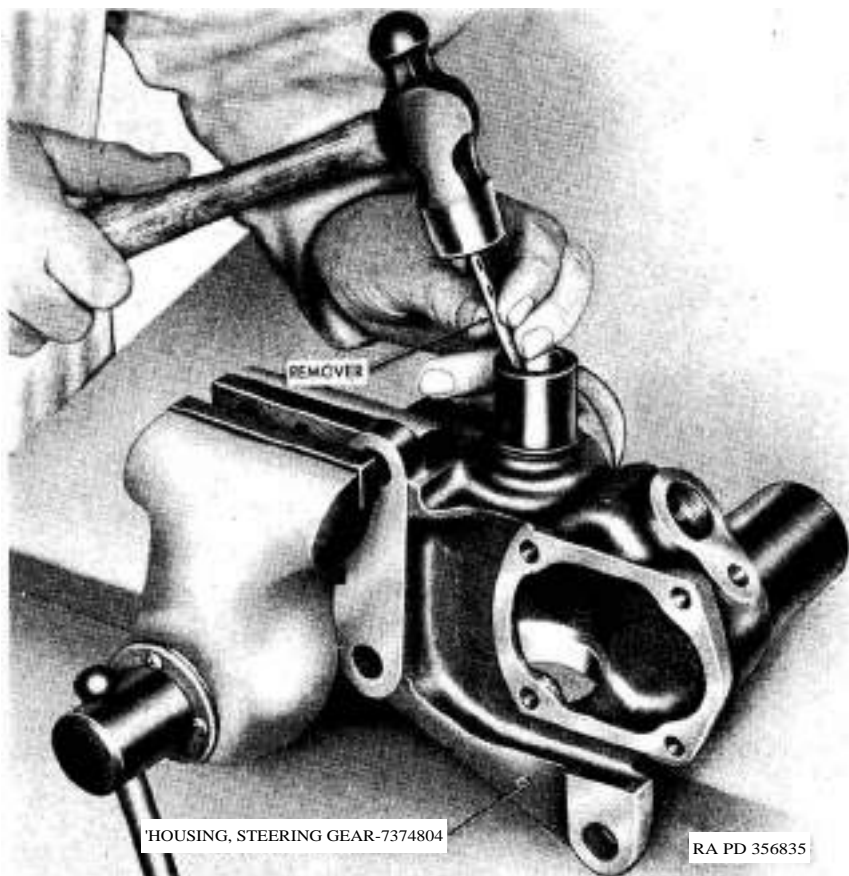

Figure 161. Removing worm upper bearing cup from steering gear housing with an improvised remover.
- (7) Remove worm lower bearing cup (FF) and roller bearing with cage assembly (EE) from steering gear housing.
- (8) Remove column shaft with worm assembly (DD) and roller bearing with cage assembly (CC) from steering gear housing.
- (9) Remove pitman arm shaft seal (Z) from steering gear housing.
f. *Remove Worm Upper Bearing Cup from Steering Gear Housing.* If inspection (par. 184c) reveals that replacement of worm upper bearing cup (BB) is necessary, drive bearing cup from housing with an improvised remover (fig. 161), which can be manufactured locally (fig. 6). Refer to paragraph 11 for information pertaining to the bearing-cup remover.